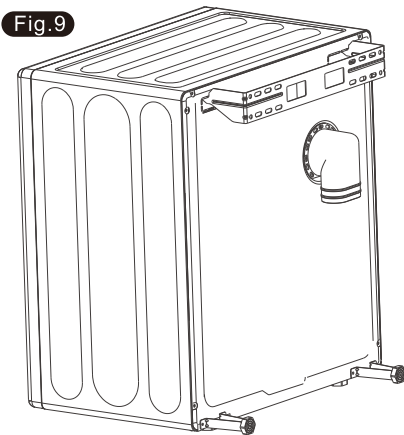

Fig.9
7. With assistance, carefully mount the Tumble Dryer on to the Hanging Bracket. (Fig.9)